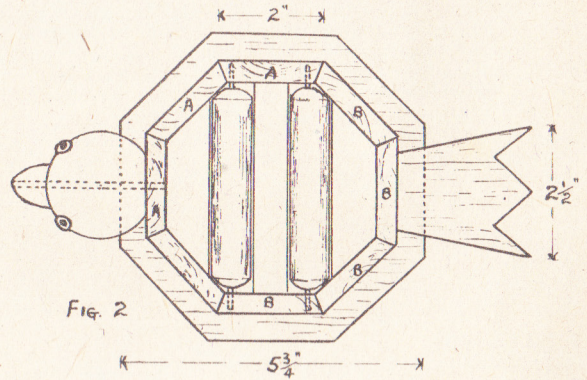

Fig. 2
Start by cutting the eight sides for the case 6 ins. long, 2 ins. wide and $\frac{3}{4}$ in. thick. The best way to get the correct angles for the mitres is to draw out the plan to full size, as shown in Fig. 2. Then you can proceed to mitre the edges. Go slowly, planing off a little at a time until a perfect fit is obtained, laying the work on the plan from time to time to get the mitre lined up correctly.
The case can now be glued together in two pieces—all the sides marked (A) in Fig. 2 making one half, and all the pieces marked (B) for the other half. These two halves are fastened together after the rollers have been fitted, which is the next job.